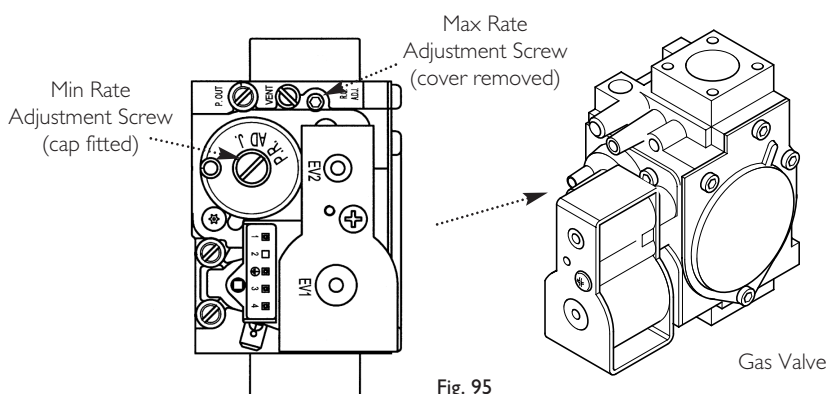

Fig. 95
9. It is possible to alter the CO2 by adjustment of the gas valve. Remove the plastic cover from the 'Max Rate' adjustment screw. At maximum rate the 'Max. Rate' adjustment screw should be turned, using a suitable hexagon key, until the correct reading is obtained (Fig. 95). Turning clockwise will reduce the CO2. Anti-clockwise will increase the CO2.
11. With the boiler on minimum, the 'Min. Rate' adjustment screw must be altered, using a suitable hexagon key, after removing the cap (Fig. 95). Turning anti-clockwise will reduce the CO2. Clockwise will increase the CO2. If the CO2 is reset at either boiler rate it must be rechecked at the other rate and also adjusted if required.